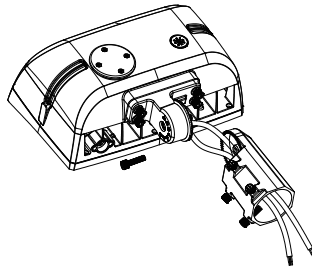

Figure 3-2
- Secure Slip Fitter Part A to the fixture with the Pivot Bolts (Figure 3-2). Pass the cable through Slip Fitter Part B (Figure 3-2).